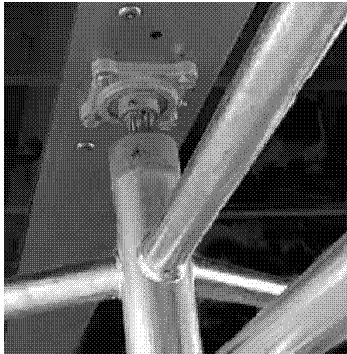

Figure 3.18a - The splined top channel shaft has been aligned and is being seated into the grooved cavity in the top of the Roto section.
32. With a helper supporting the Roto section and holding it upright, raise the top channel up and over the yoke, Roto, and OV sections. Align the splined top channel shaft above the Roto section and carefully lower the top channel onto the yoke and the Roto sections. (See **Figure 3.18a** and the note below)